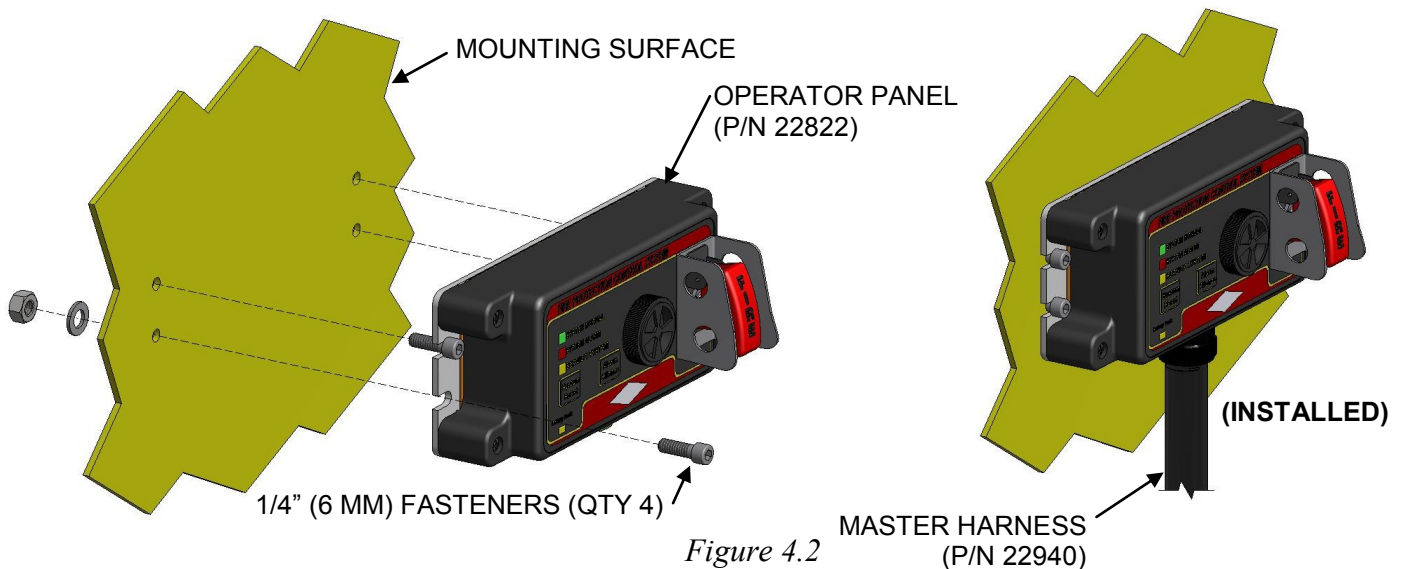

Figure 4.2
The Operator Panel must be mounted in a location where the audio and visual indicators on the face of the panel may be seen and heard from the operator's seat. The Operator Panel should be mounted in a dry location safe from any potential weather, moisture and excessive vibration and must be mounted to a surface capable of supporting the weight of the panel and any additional mounting components. The Operator Panel is typically surface mounted (See Figure 4.2). Consider the most convenient routing path of the mating Master Harness (P/N 22940) to determine the best mounting location for the particular application.
**Operator Panel Surface Mounting:** For surface mount applications, use the dimensions shown in Figure 2.1b or match drill four holes in the selected mounting surface for mounting screws. Assemble the Control Panel to the mounting surface using the appropriate hardware (See Figure 4.2). **Do not plug the Master Harness into the Operator Panel until directed to do so in Section 4.6.**